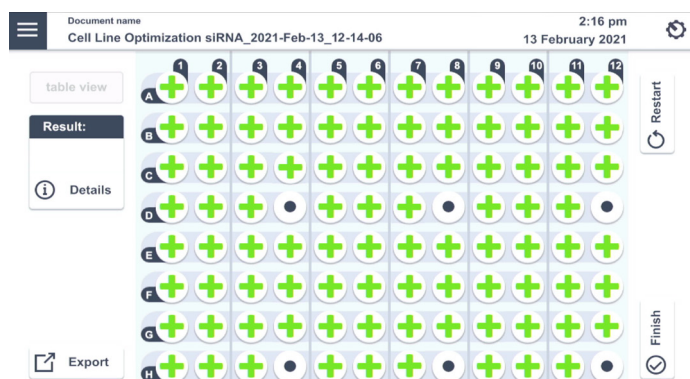

Figure 2.29: Example of a result file.
2. When the experiment is complete, a result file summarizing the Nucleofection® Process will be displayed (Figure 2.29).